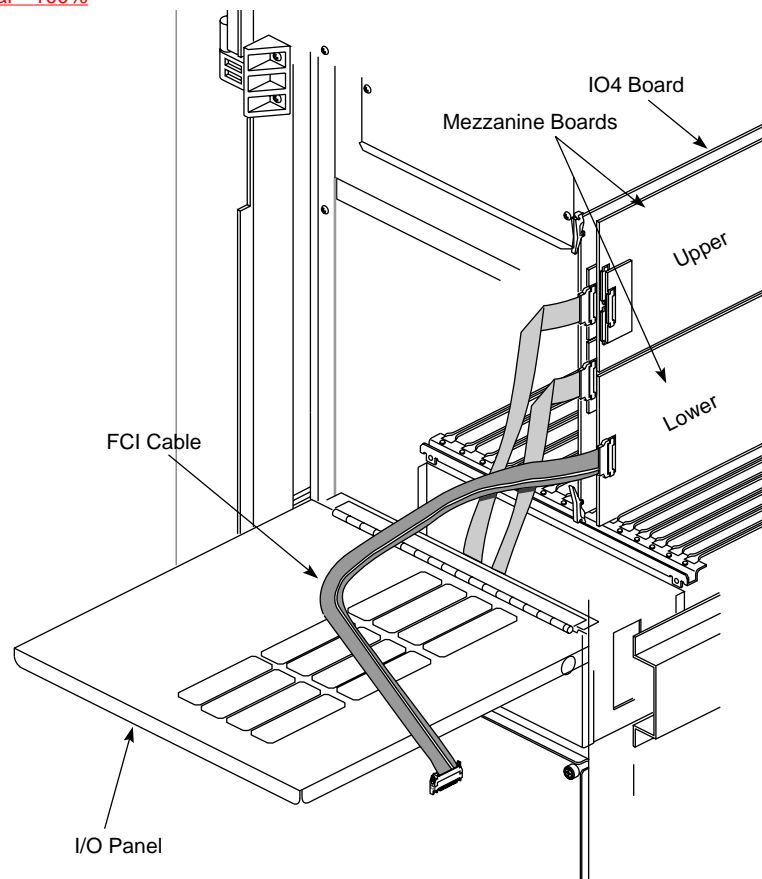

Figure 2-27 Installed IO4 Board
9. Reinstall the IO4 board into the chassis, as illustrated in Figure 2-27. Push the board firmly into the backplane. If the board has a VCAM board, the VCAM board must also connect to the backplane.